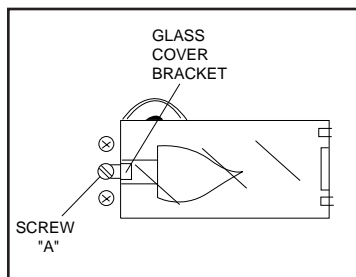

Figure 13
3. Use a dime in slot of screw "A" to twist and remove screw. (Screw "A" is the only screw with a "slotted" head as shown in Figure 13.)